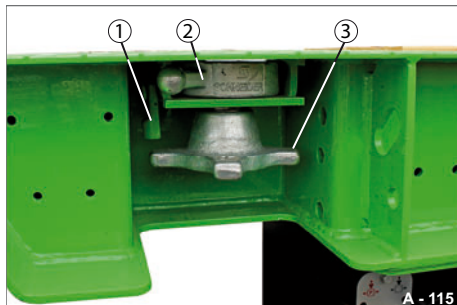

Fig. 137 Locking point completely lowered
- Raise the safety locking mechanism (Fig. 137/1), and lock it.
- Unscrew the clamping nuts (Fig. 137/3).
- Turn the grooved bush (Fig. 137/2) to the right.
- Raise and rotate the clamping nuts and the pivot pin (Fig. 137/4) simultaneously.
- The guide bush (Fig. 137/5) comes out the top.
- Secure the clamping nut with safety locking mechanism (Fig. 137/1).
- ▶ Raise the safety locking mechanism (Fig. 137/1), and lock it.
- ▶ Unscrew the clamping nuts (Fig. 137/3).
- ▶ Secure the clamping nut with safety locking mechanism (Fig. 137/1).